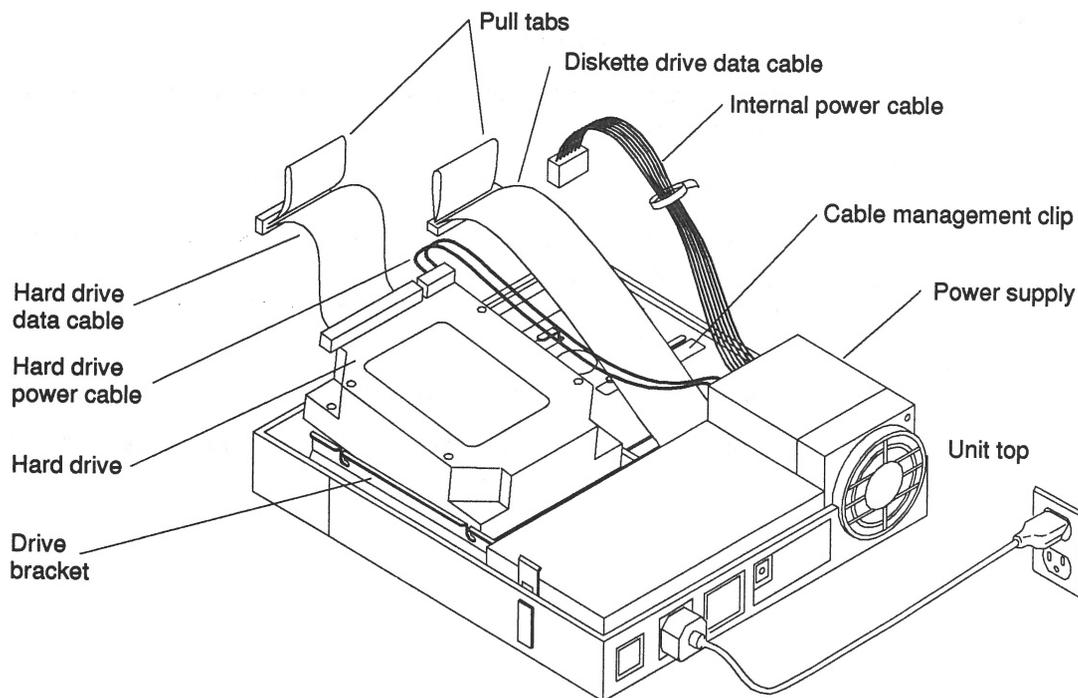

Figure 7-6 Installing a Hard Drive
- 3. If present, remove the four mounting screws from the old disk drive. Refer to Figure 7-6.**